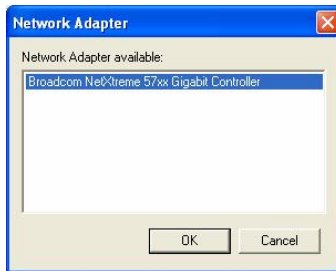

Figure 7 Network Adapter box
1. From the menu click **Network Selection**. The Network Adapter box appears, see Figure 7.